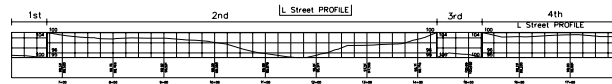

Figure 6-44 The Split profile view for the **L Street** alignment
14. Click in the drawing area to specify the origin of the profile view; the profile view is displayed, as shown in Figure 6-44. The profile is split in four views.